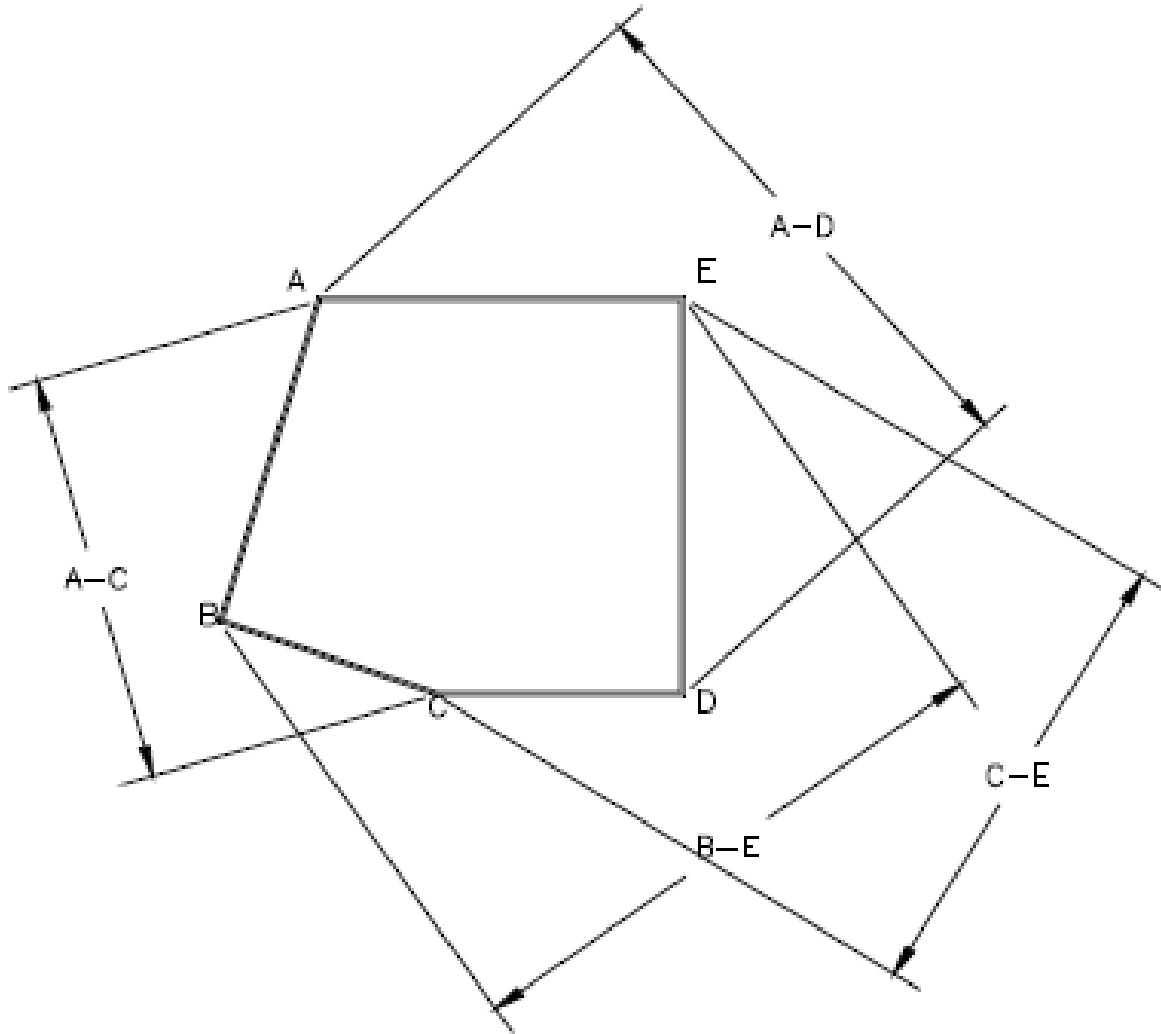
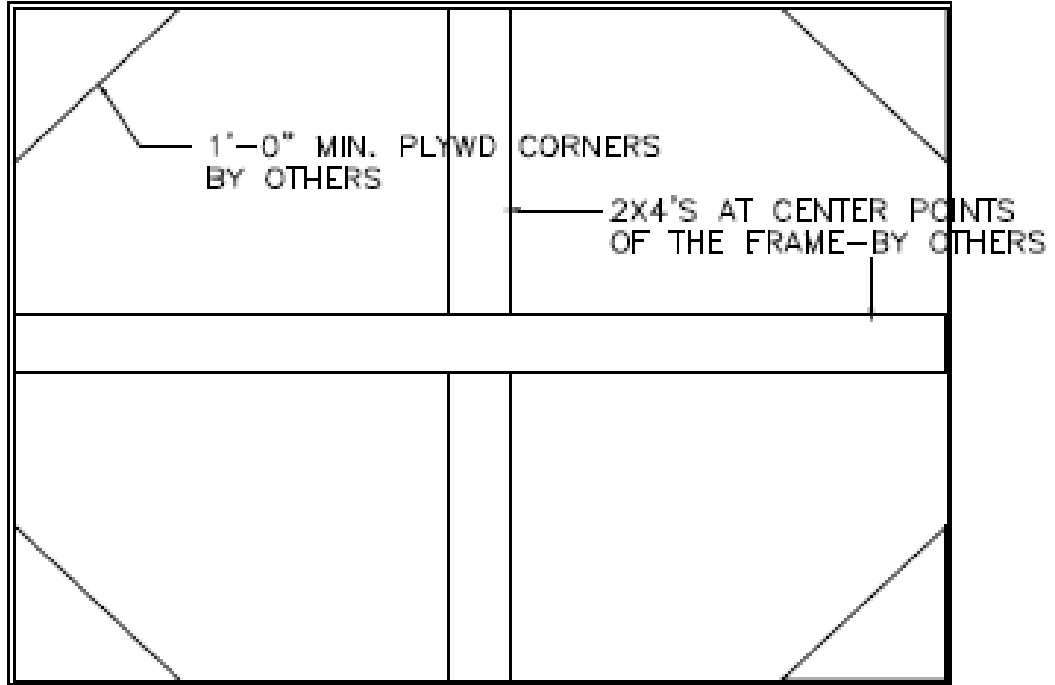

Figure 2
Figure 3
- A.** To ensure a proper fit of the recessed mat, measure and confirm all dimension on the approved shop drawings before putting bracing (wood) or any support in place. It is very important that the diagonal dimensions are also measured and confirmed (see Figure 2). Failure to use wood bracing in the frame during installation may result in improper fit of the mat assembly in the frame. This would include the inability of the mat to lie flat when it is placed in the frame. See Figure 3 for the recommended placement of the wood bracing.
**STEP 9.** Place the assembled frame into its installed position, staking it in position. Ensure that at least one worker is handling each side of the frame. Ensure that the frame is level, properly aligned properly centered, and at the proper height. Securely brace the frame to avoid deforming during the concrete pour. Use wood bracing. Figure 3 illustrates the placement of the wood bracing in the frame.